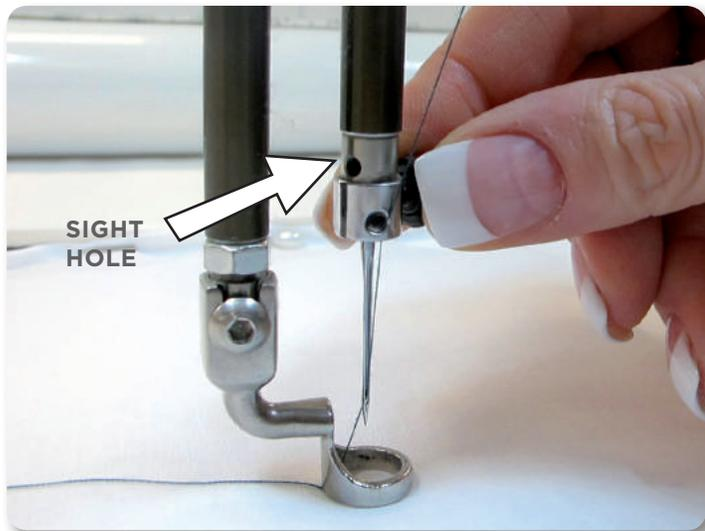

Figure 7
IMPORTANT: Check the needle to confirm that it is fully inserted. The needle bar has a stop/sight hole above the needle bar clamp screw – make sure the needle is touching the top of the stop/sight hole (Figure 7). If it is not, the machine timing will be off and it may be possible for the needle to collide with internal parts causing damage not covered by warranty.
3. Loosen the needle-bar clamp thumb screw (Figure 7).
4. With the scarf (small ground out section/dip on the back side of the needle just above the needle eye) facing the rear hand wheel side of the machine, and the long groove down the front of the needle facing the bobbin case side (see Figure 7), push the needle all the way up into the needle bar – until it can go no farther. Look into the sight hole to verify that the butt of the needle reaches the top of the sight hole.